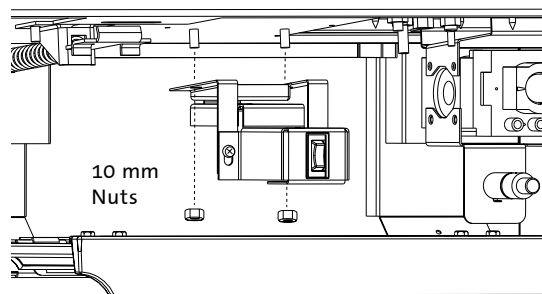

Figure 3. Install the Control Switch.
3. Using the M6 nuts and 10 mm socket, attach the Control Switch / Snapstat Bracket to the two studs protruding from the firebox floor. See Fig. 3. Be sure that the snapstat disc firmly contacts the bracket surface.